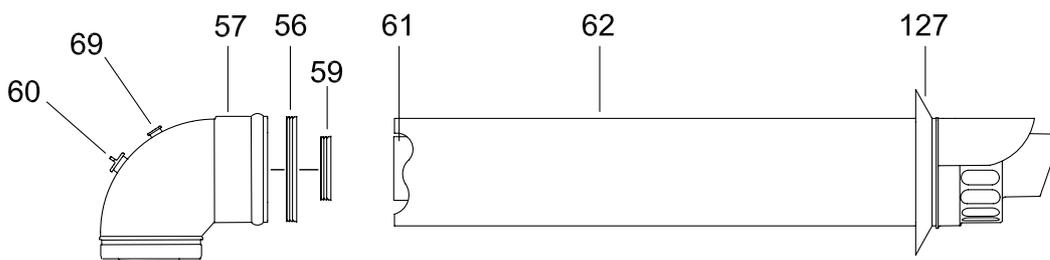

Fig 10
HORIZONTAL FLUE KIT BOX CONTAINING (Fig 10):
Note: Add 30 mm to overall flue length to allow for terminal wall cover.(fig.10 item 127).
Note: Add 30 mm to overall flue length to allow for terminal rubber wall seal (fig.10 item 127).
Working above the boiler pull the flue duct towards the elbow in order to engage the tube into its header (fig.10). Position the flue elbow in line with the flue and push so as to locate inner and outer flue correctly. Ensuring a good seal is made with O-rings. Tighten the two screws on the flue flange to secure the elbow header in place.
Terminal rubber wall seal must be fitted (item 127 fig.10).